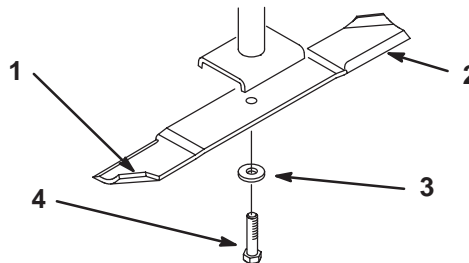
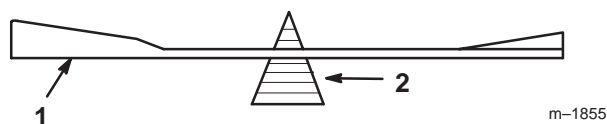

Figure 25
Figure 27
Hold the blade end using a rag or thickly-padded glove. Remove the blade bolt, spring disk, and blade from the spindle shaft (Fig. 25).
2. Check the balance of the blade by putting it on a blade balancer (Fig. 27). If the blade stays in a horizontal position, the blade is balanced and can be used. If the blade is not balanced, file some metal off of the end of the sail area only (Fig. 25). Repeat this procedure until the blade is balanced.
1. Install the blade onto the spindle shaft (Fig. 25).
2. Install the flat washer, lock washer, and blade bolt (Fig. 25). Torque the blade bolt to 85–110 ft–lb (115–150 N·m).